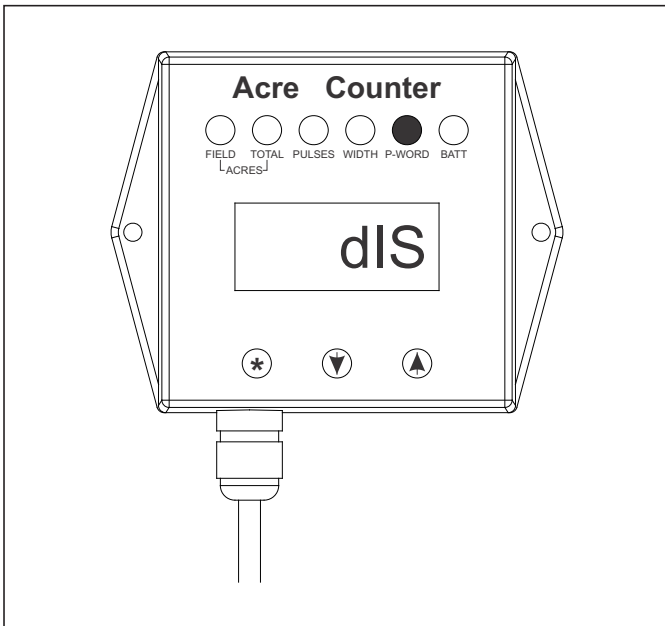

Figure 4-50: Password Disabled
1. If the display shows “**dIS**” *See Figure 4-50.*